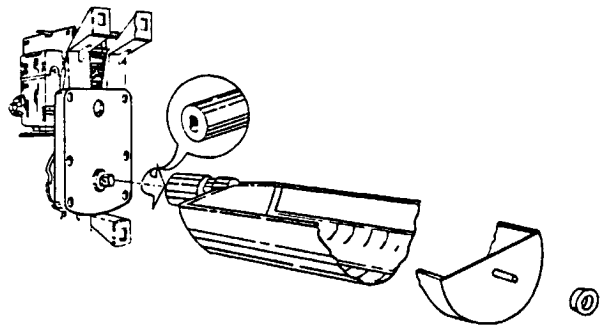

Figure 8
1. Make sure the hole through the rear shaft of the vend motor is in a horizontal plane. (If a pin were inserted in the hole, the pin would be horizontal.) See Fig. 8.
2. The vend rotor must be in the loading position when the motor shaft is inserted into the end of the rotor. See Fig. 8.